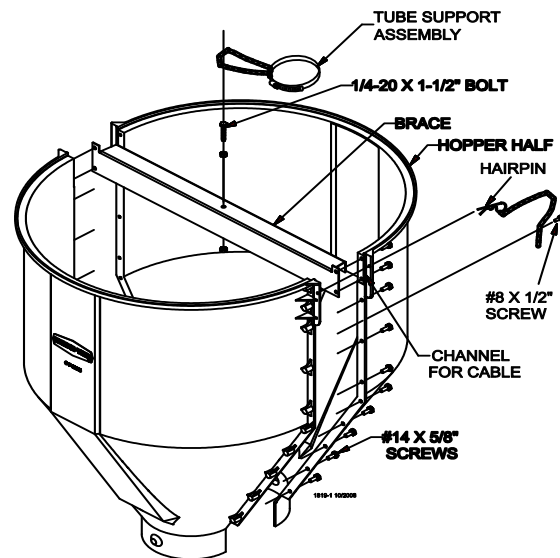

Figure 17.
1. Assemble the 1/4-20 x 1-1/2" bolt to the brace with two 1/4-20 nuts. One nut should be assembled under the brace with the other on top. This bolt is to provide a place for the tube support assembly chain to be hooked. **See Figure 17.**
2. Assemble the 150 lb. hopper halves and brace as shown in **Figure 17**, using #14 x 5/8" screws (supplied in hardware package).